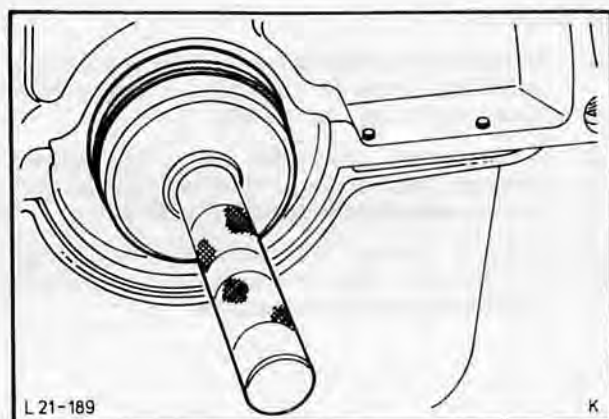

Fig. 210. Drive in oil seal, using Special Tool 21-011-A
4. Slide new oil seal onto Special Tool 21-011-A and drive in up to rear crankshaft bearing stop, Fig. 210.